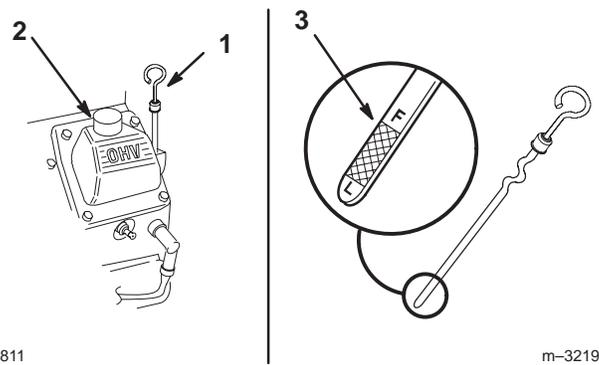

Figure 34
2. Clean around the oil dipstick (Fig. 34) so dirt cannot fall into the filler hole and damage the engine.
3. Pull the oil dipstick and wipe the metal end clean (Fig. 34).
4. Slide the oil dipstick fully into the filler tube. Pull the dipstick out and look at the metal end (Fig. 34). If oil level is low, slowly pour only enough oil into the filler tube to raise the level to the full mark.
5. Slowly pour approximately 80% of the specified oil into the filler cap (Fig. 34). Refer to Servicing the Engine Oil, page 31.